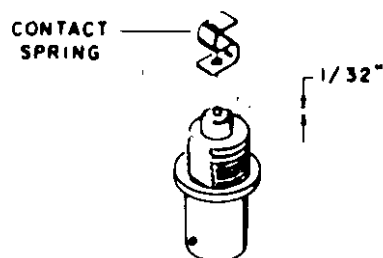

Figure 4. Cutting Center Conductor Lead to Accommodate Contact Spring
- (1) Cut center conductor lead to approximately 1/32 inch (see Figure 4).
- (2) With flat file, smooth end of lead; wipe off burr with tweezers or similar metal instrument.
Parts mentioned in the following procedure are identified in Figures 4 and 5. Tools required are listed in Replacing Output BNC Connector, Tools Required.